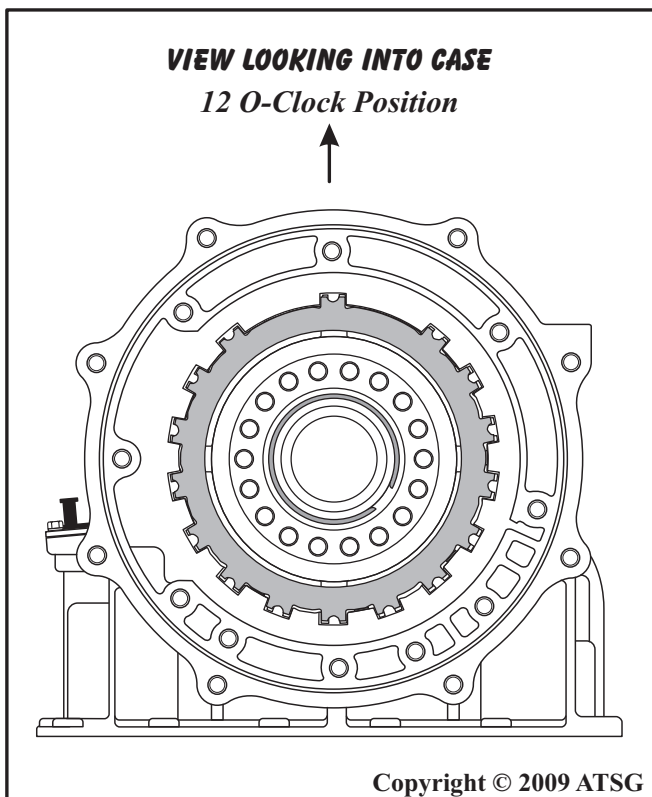

Figure 190
- Note: The forward clutch steel plates must also be oriented properly in the case, with the single lug located at the 12-O-clock position in the case, as shown in Figure 190.*
- Note: The forward clutch backing plate must also be oriented properly in the case, with the single lug located at the 12-O-clock position in the case, as shown in Figure 190.*